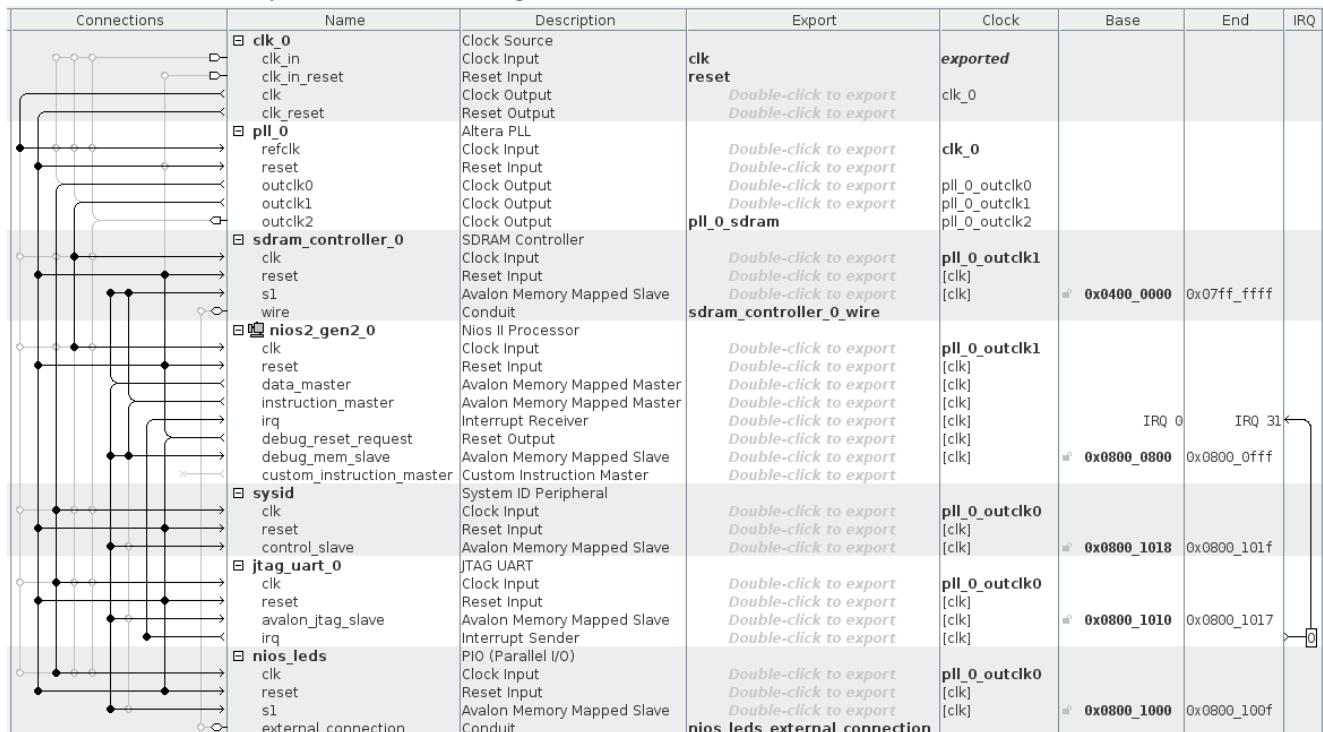

Figure 9-3. Adding LEDs to the System
13. Connect the system as shown in Figure 9-3 below: